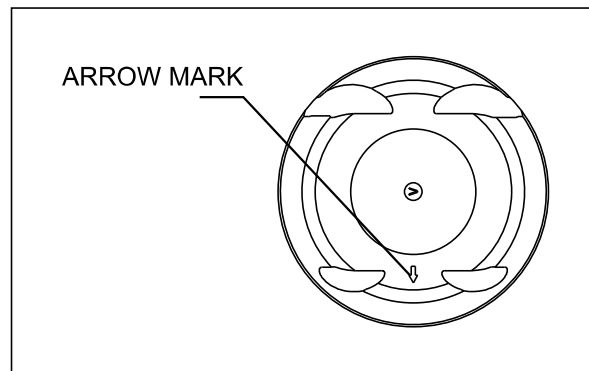

Fig. 3.104
- Assemble the piston into the crankshaft in such a way that the arrow mark indicated in the piston crown should face towards the exhaust port of the cylinder. (Fig. 3.104)